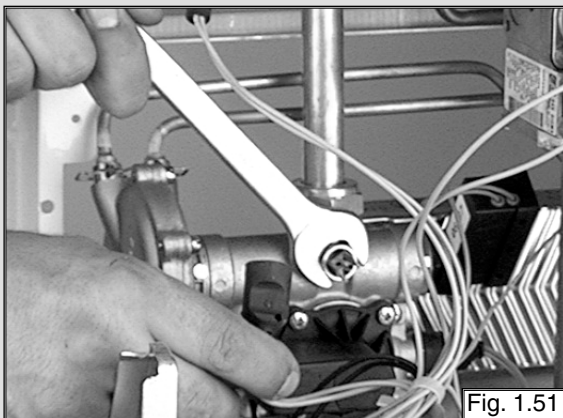

Fig. 1.51
1. Remove the electrical connector by pulling off the thermostat connections and unscrewing the sensor probe with a 14 mm open ended spanner (see fig. 1.51).